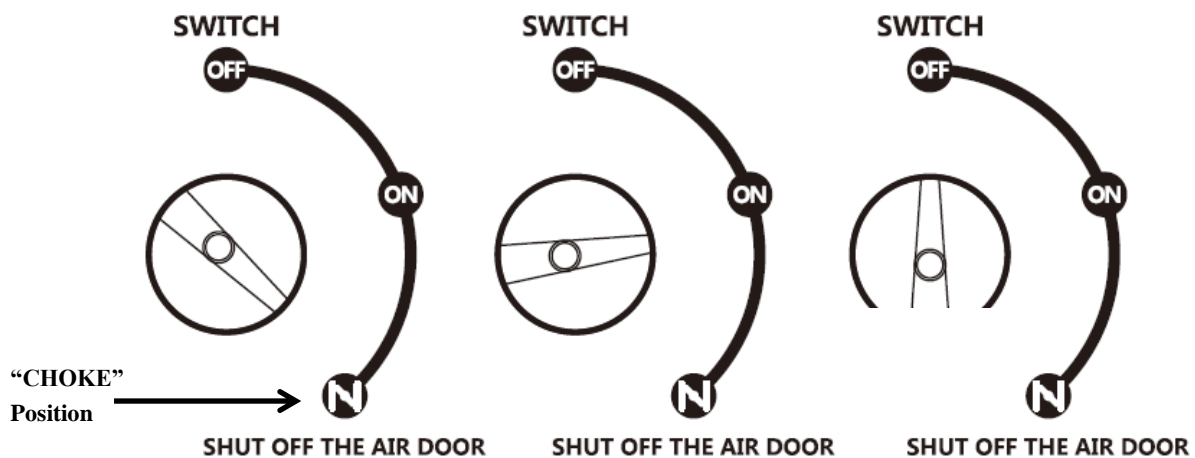
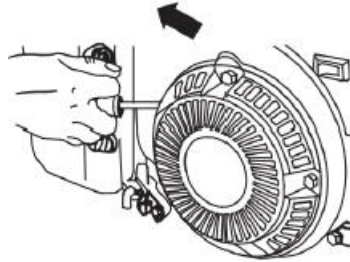

Figure 7
Figure 8
4.5. Turn the 3-in-1 switch to the “CHOKE”  position as shown on **Figure 7**.
4.6. **Recoil Starting:** Gently pull the starter lever until you feel resistance as shown on **Figure 8**. Pull until it meet the pressure and prevent kickback, pull quickly and start the engine. Repeat the same steps if necessary. Never allow the cord to snap back. After starting the engine, turn the 3-in-1 switch to the “ON” position as shown on **Figure 7**.
- * Turn the 3-in-1 switch to the “OFF” position as shown on the **Figure 7**,